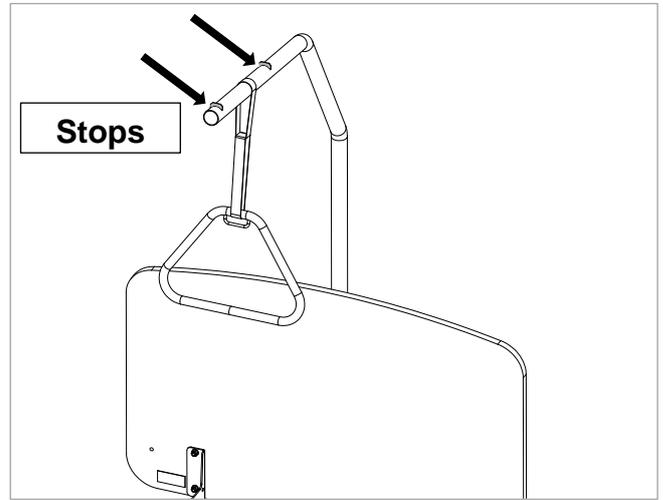

Figure 7.11
- Ensure that the Fixing Belt is located between the two stops. This ensures that the Handle will not slip off the Lifting Pole during use (see Figure 7.11).